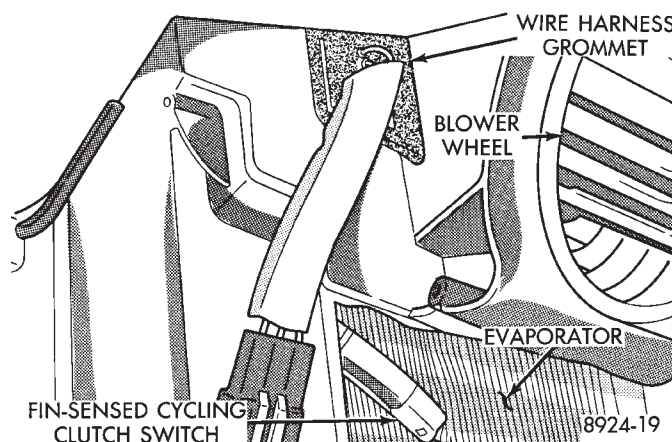

Fig. 16 Remove or Install Wire Harness Grommet
(1) Remove the cover/housing from the heater-A/C blower motor. Refer to Blower Motor removal and installation. Remove the cover only. Blower motor or blower motor wheel removal is not necessary.
(2) Disconnect the (three pin) wiring pigtail connector from the clutch switch sensor harness (located on the outside of the A/C-heater housing). Push the wire harness grommet (attached to the A/C-heater housing) through the hole in the housing. Feed the wire harness and connector through the opening and into the housing (Fig. 16).